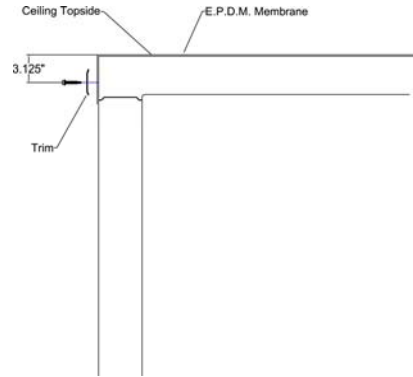

Figure 7
6. Attach the trim and door hood by using the provided hex head sheet metal screws. All pieces should be held down 3-1/8" from the ceiling top as shown in Figure 7. Insure the trim and membrane roof material cover the joint between the ceiling and wall panels. **Note:** The trim may have to be cut to fit.